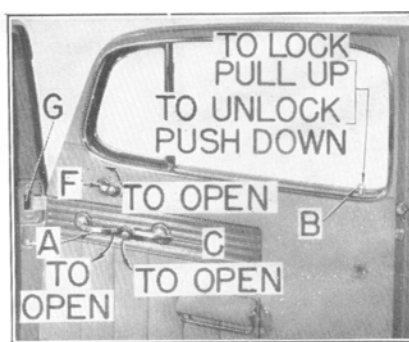

Figure 55
Ventilator wings—crank type—are operated by turning handle (F), Fig. 55.